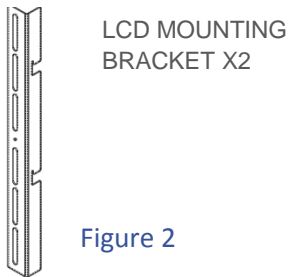

Figure 2
STEP 6: Check all apparatus for the installation is correct (Figure 2)